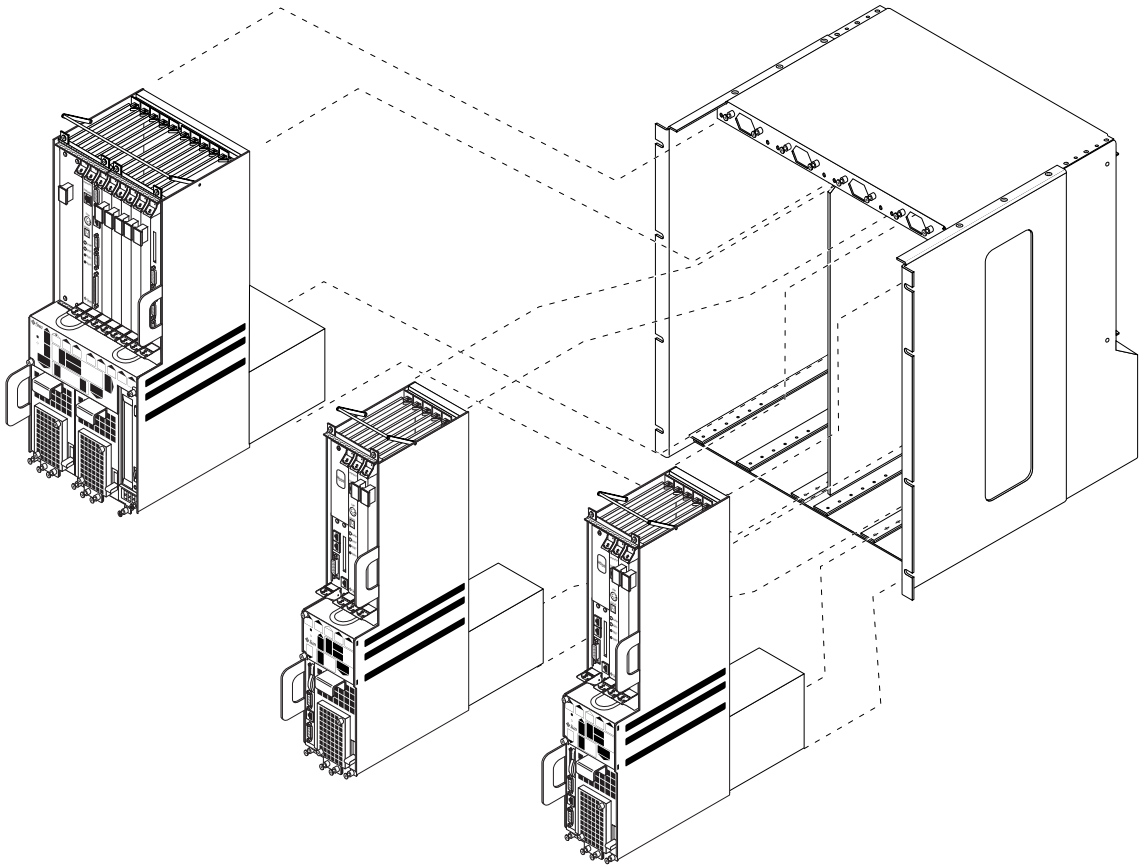

FIGURE 1-12 One Netra ct 800 Server, Two Netra ct 400 Servers in a Chassis
- One Netra ct 800 server and one or two Netra ct 400 servers (FIGURE 1-12)